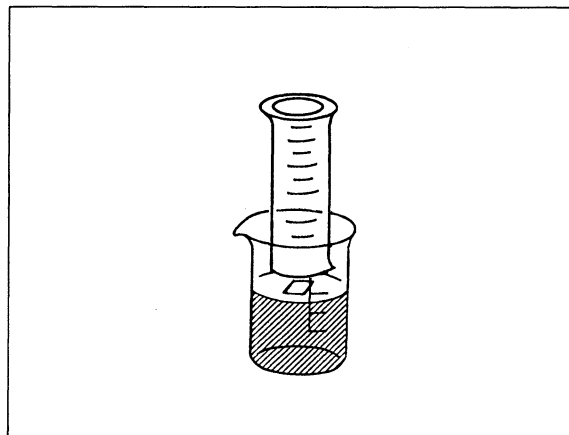

Fig. 2 ► Experiment 1.
► Fig. 2.
5. Hold the empty measuring cylinder as shown in fig. 2 and slowly press it down.